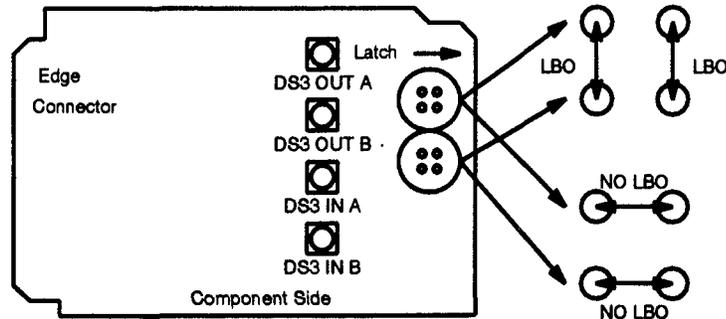

Figure 3. AKM3 ELIU1 Option Settings
26. Refer to **Figure 3** and set the option plugs according to **Table F**.